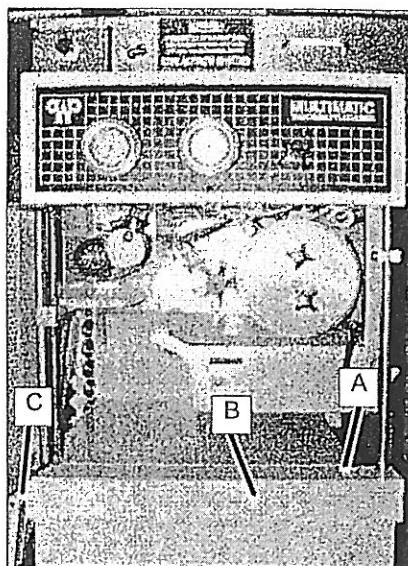

Fig. 7-1
To achieve an exact dough weight, the oil supply must work well. The oil is conveyed by the oil pump (A) from the oil tank to the lubricating points (see Fig. 7-1) For three to four working cycles 1 drop of oil at each lubricating line will suffice. The oil quantity can be individually adjusted for each line.